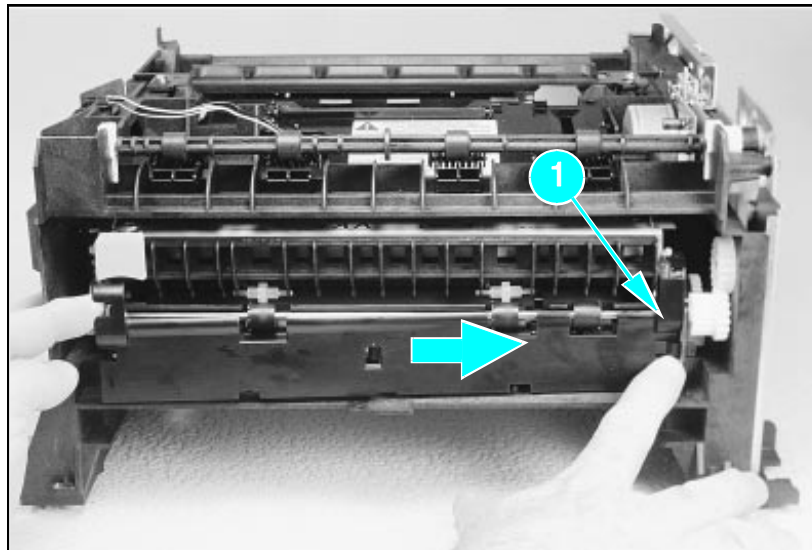

Figure 24 Removing the fuser cover.
2. Locate the black plastic fuser cover at the back of the printer. Press the release tab (callout **1** in Figure 24).